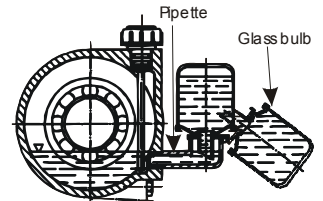

Fig.3 Oiler
- Turn over the glass bulb and pour oil into the pipette until it reaches the level as indicated in the fig. 3: fill the glass bulb and put it into the vertical position. Check that the level of the glass bulb remains constant. The types of oil indicated in tab.1 are valid for temperatures between -10° and 120°C.